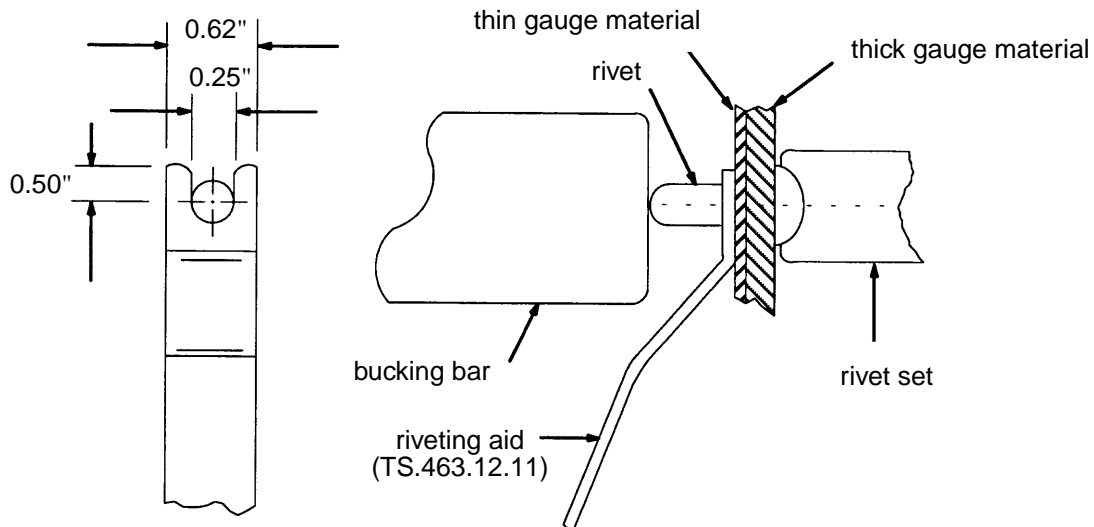

Figure 5 - Riveting Aid Tool
- Step 5. Start riveting at the center of the skin and work outward in all directions so that the tendency of the skin to stretch does not result in warping or oil-canning. Squeeze the trigger on the rivet gun slowly to begin riveting to avoid damaging the skin or surrounding structure. If riveting extra long joints, start from the center of the joint and rivet approximately every fourth rivet, working toward the end of the joint, and then install the remaining rivets. A TS.463.12.11 riveting aid tool may be used to hold the parts firmly together when riveting thin material to thick material and to prevent any gapping condition between sheets during forming of the shop head (see Figure 5). The maximum nominal diameter of the rivet that can be installed using the riveting aid tool is 5/32". Control the pressure on the rivet set as required by turning the rivet gun's air regulator/trigger knob.